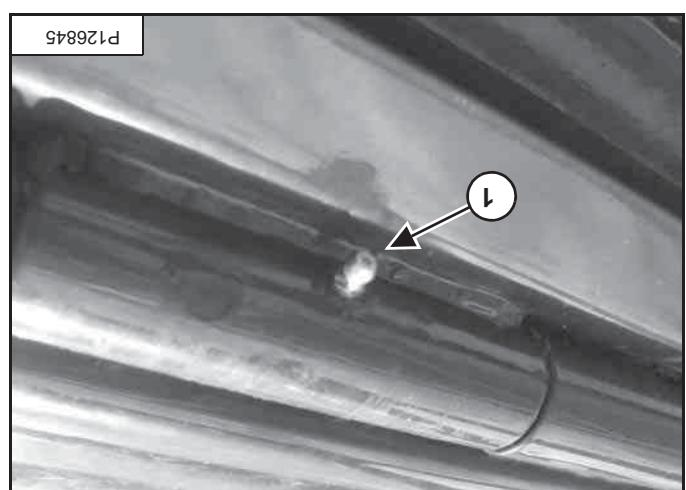

Figure 114
Grease fittings (item 1) [Figure 114] for the front gate hinge. Add one pump of grease for every 40 hours of operation.